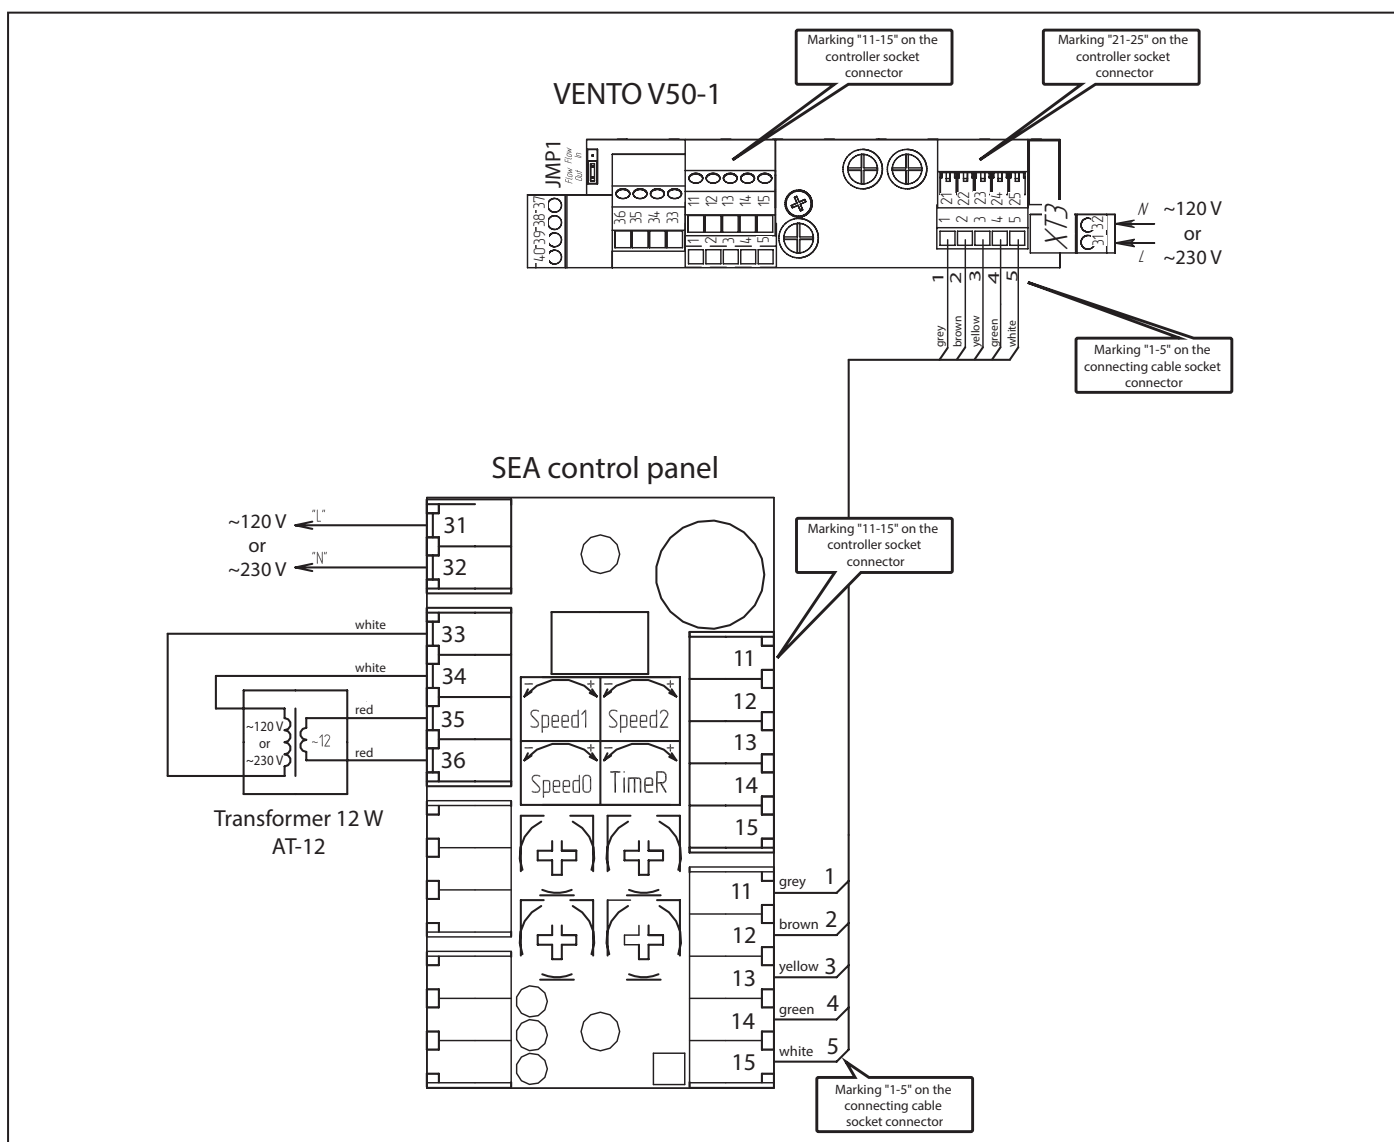

Fig. 24. General wiring diagram for connection of Vento V50-1 unit to a single SEA control panel
* - air flow direction depends on position of the jumper JMP1 on the circuit board. The jumper is set to supply mode by default, Fig. 24.
The total wiring diagram for connection to the control panel SEA is shown in Fig. 24.